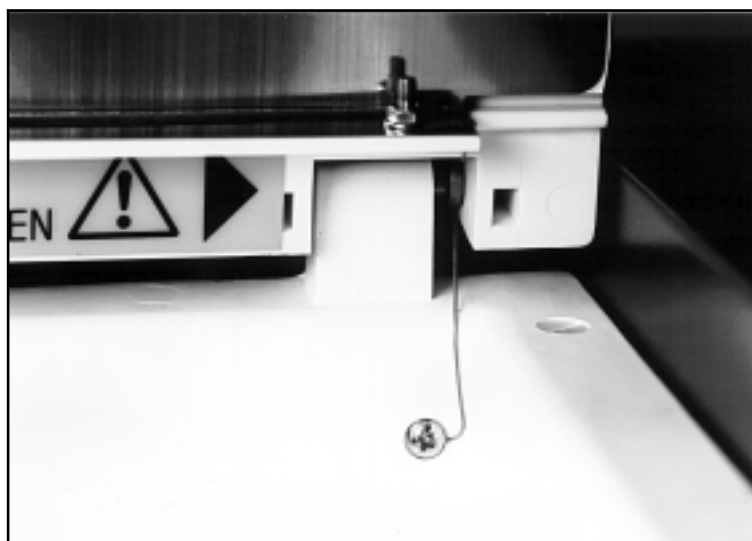

Figure 6. Spring earth contact on test chamber cover.
**Caution:-** Visually confirm that the two spring earth contacts linking the metal emc/discharge barrier on the test chamber cover to the back of the chamber are intact (see Figure 6).